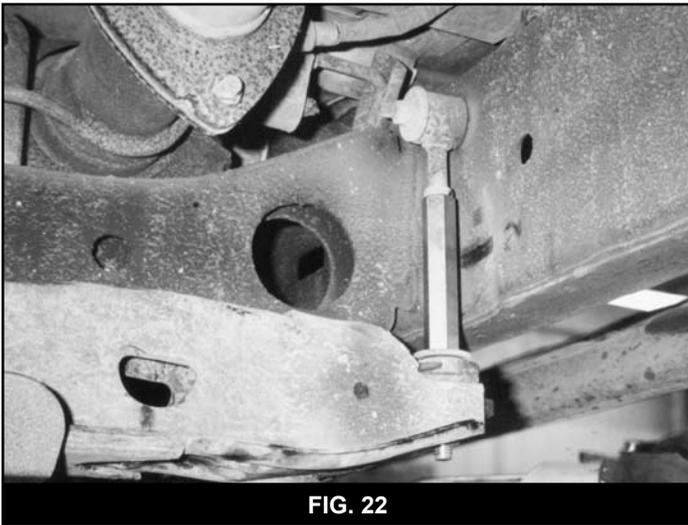

FIG. 22
61. Lower the torsion bar crossmember by installing the supplied 960305 extension links. First, install the supplied sleeve in to the new link bushing and attach using O.E. hardware. Torque the links to 50 ft-lbs. (Fig. 22)